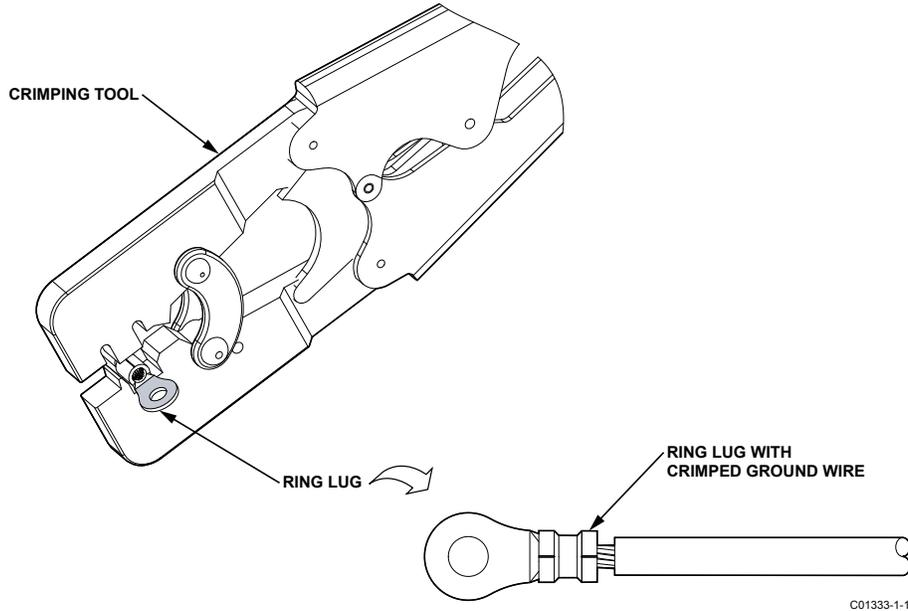

Figure 7 – Crimping Ground Wire Ring Lug
- While holding the wire in place, squeeze the tool handles together until the ratchet releases, then allow the tool handle to open fully. See Figure 7.